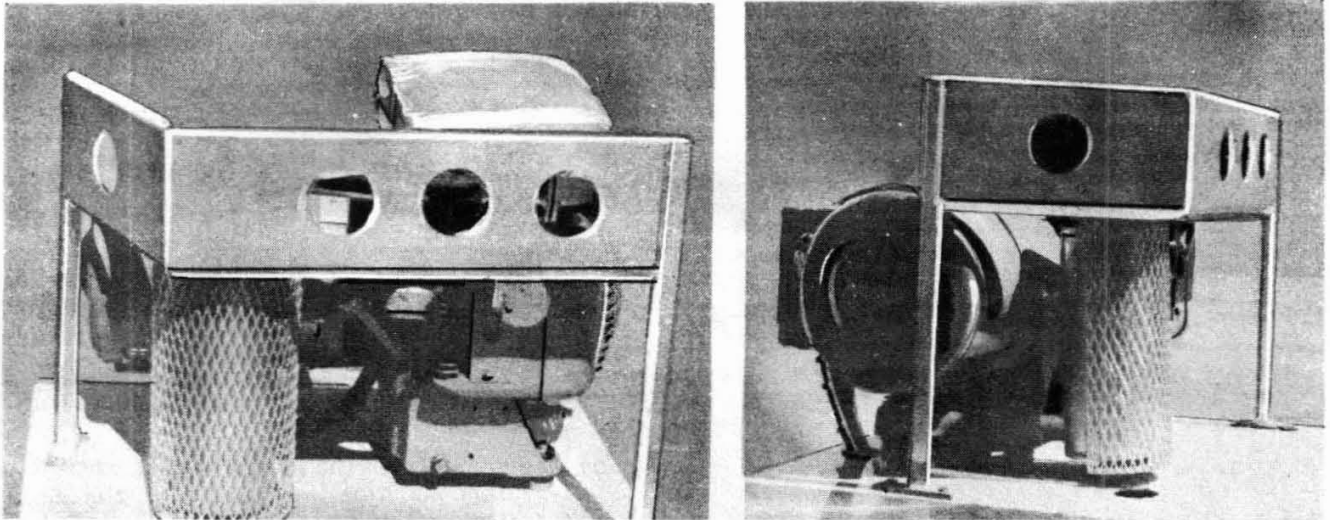

Fig. 3—ONAN Generator
**2.06** Electric power to operate the lift, power tools, and lights is provided by an ac generator driven by an auxiliary gasoline engine. (See Fig. 3.) The generator provides 120-volt single-phase, 240-volt 3-phase, 60-hertz power. The ignition switch, low